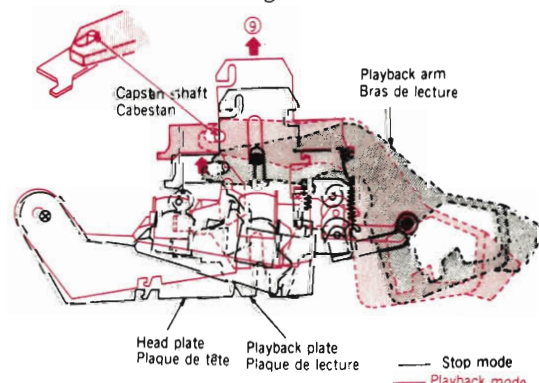
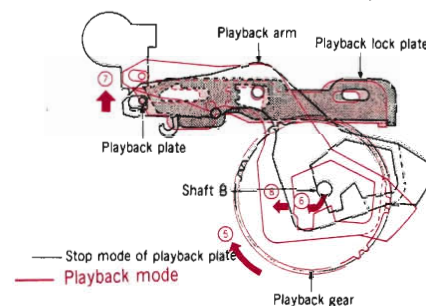

Fig. 3
Fig. 4
- 3) Fig. 3 shows the connection of the shaft of the playback plate and playback arm which operate the head plate and pressure roller.
Following the rotation of the playback gear, the shaft B, which is attached to the playback gear, rotates in the direction of arrow ⑥ shown in Fig. 4, whereby the playback arm slides in the directions of arrows ⑦ and ⑧, and the playback plate, which is connected via the shaft, slides in the direction of arrow ⑨ shown in Fig. 3.
- 4) When the playback arm slides to the position shown in color in the Fig. 4., the shaft of the playback plate is locked by means of the playback lock plate and then there is playback.